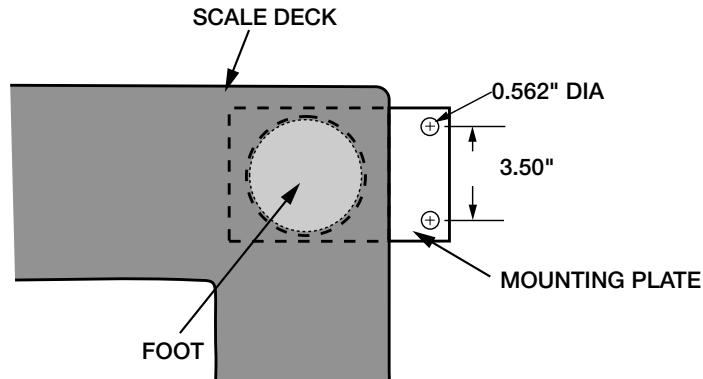

Figure 2-2. Mounting Plate Installation
3. Lower the scale back to the floor and position the plates as shown in Figure 2-2 with the bolt-down holes